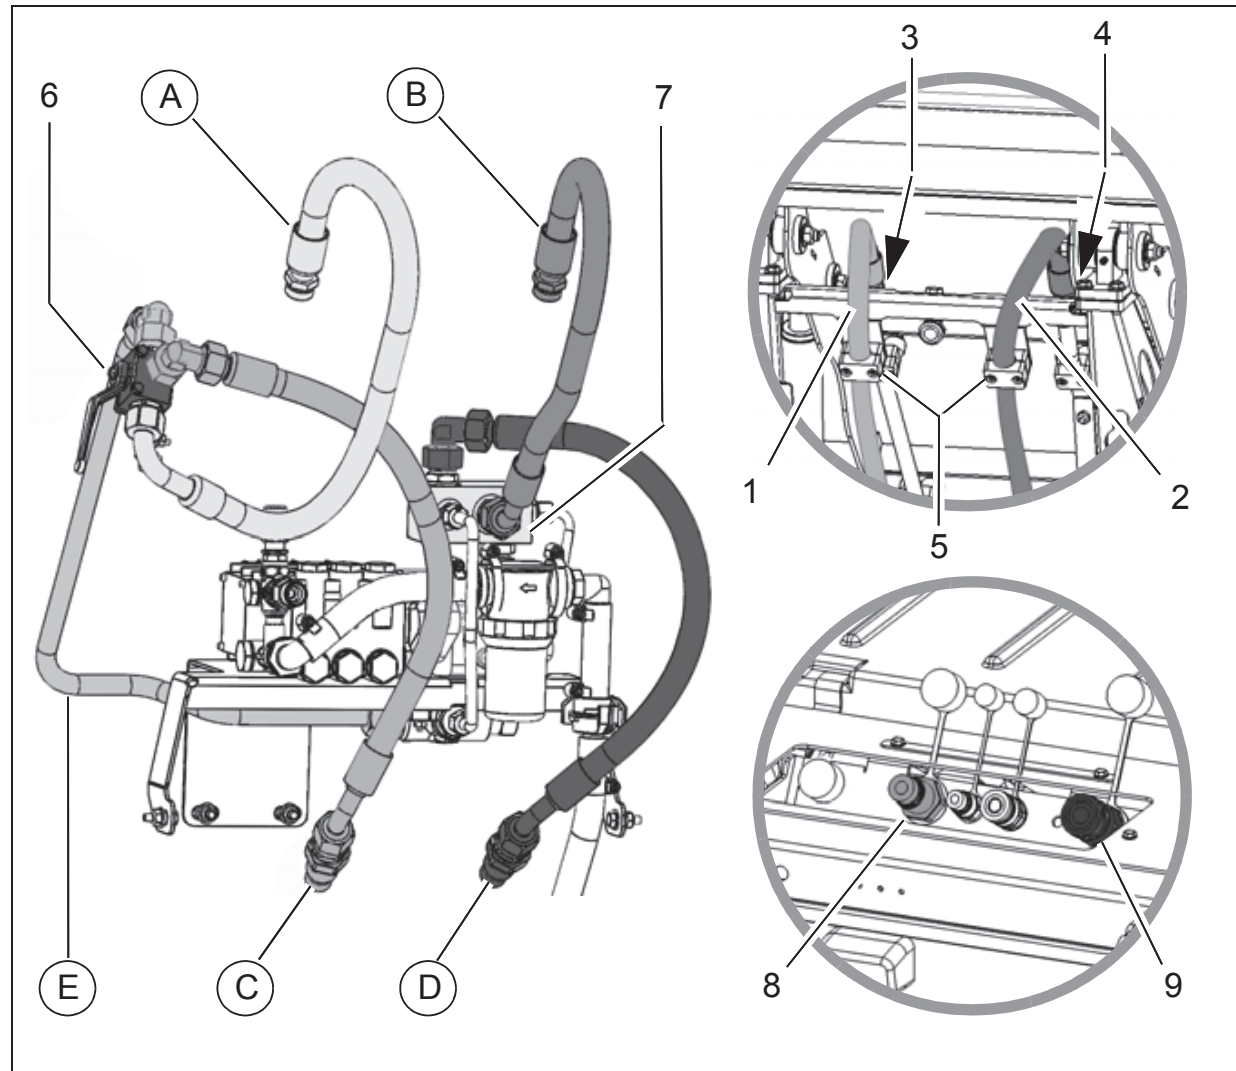

Fig.6
1. Remove the existing hydraulic hoses (Fig. 6/1) and (Fig. 6/2) from the screwed pipe fitting (Fig. 6/3) and (Fig. 6/4).
2. Complement all hydraulic hoses (Fig. 6/A-D) and the hydraulic pipe (Fig. 6/E) with standard parts as shown.
3. Fit the hydraulic hose (Fig. 6/A) between the hand valve (Fig. 6/6) and the screwed pipe fitting (Fig. 6/3).
4. Fit the hydraulic hose (Fig. 6/B) between the distributor (Fig. 6/7) and the screwed pipe fitting (Fig. 6/4).
5. Secure the hydraulic hoses with clamps (Fig. 6/5).
6. Fit the hydraulic hose (Fig. 6/C) between the hand valve (Fig. 6/6) and the supply (Fig. 6/8).
7. Fit the hydraulic hose (Fig. 6/D) between the distributor (Fig. 6/7) and the return (Fig. 6/9).
8. Fit the hydraulic pipe (Fig. 6/E) between the hand valve (Fig. 6/6) and the hydraulic pump.